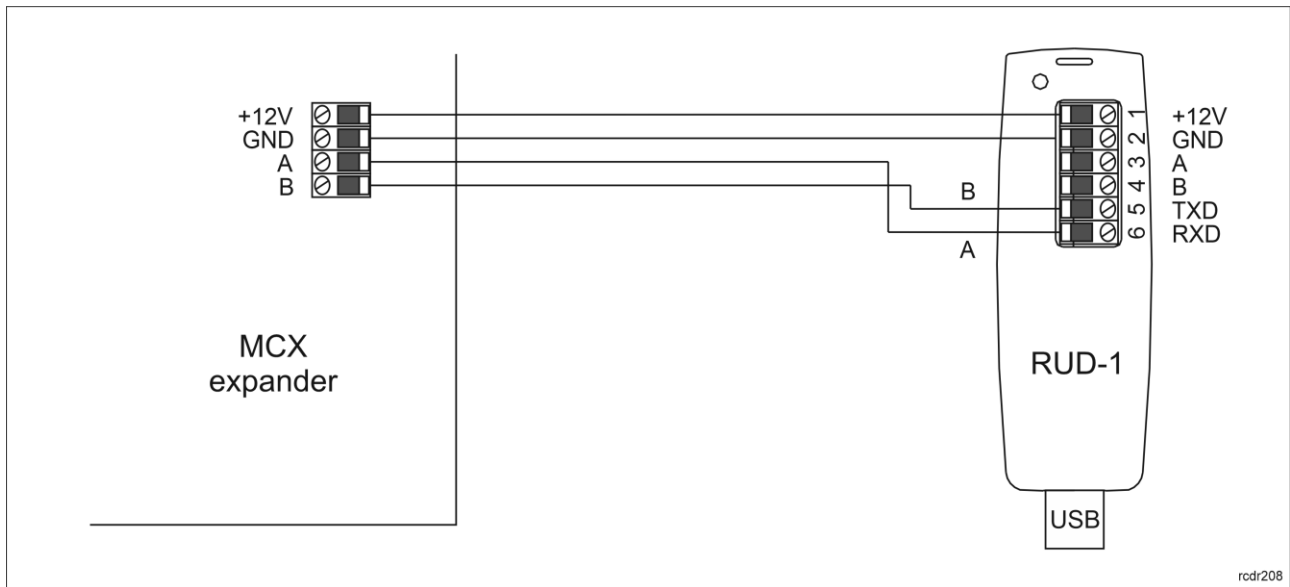

Fig. 8 Connection to RUD-1 interface (firmware update).
1. Connect the device to RUD-1 interface (fig. 8) and connect the RUD-1 to computer's USB port.